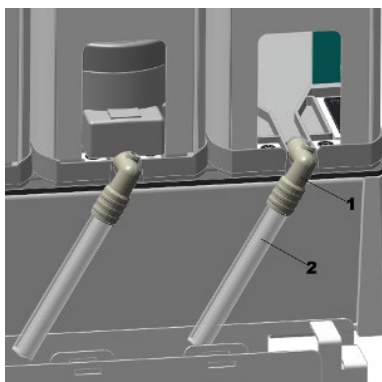

Figure 14: Connecting and placing the drainage tubing
6. Plug the drainage tubing (number 2 in Figure 14: *Connecting and placing the drainage tubing*) in the tubing adapter (number 1 in Figure 14) for spilled liquids on the rear of the modules. Lead the tubings to the waste canister.